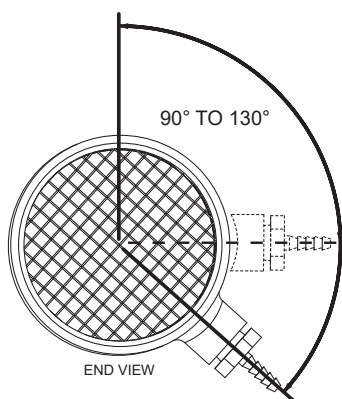

Figure 24. Intake Air Connection Hose Barb Angle Range for Proper Operation
Ensure that the hose barb installed in the Tee fitting **IS NOT** facing down towards the ground (180° - 6 o'clock position) before venting installation begins. The barb fitting must be angled between 90° and no more than 130° as shown in **Figure 24** (page 31). If the barb fitting is facing down, residual condensate that occasionally forms in the intake-air pipe can drain into the Blocked Intake Air switch through the attached sensing tube and damage the switch. This condition can also lead to Blocked Intake Air fault conditions and associated control system lockouts.
The intake-air Tee fitting is factory-installed with the 1/2 inch branch and hose barb angled to the right at approximately 130° when viewed from the end. See **Figure 24**. The Tee fitting's 1/2 inch branch and hose barb must not be angled any lower (towards the ground) than this factory specification. Angling higher, up to a 90° position, will not adversely affect operation and is acceptable.
Inspect the angle of the tee fitting's 1/2 inch branch and hose barb while viewing from the end of the tee. See **Figure 24**. If the angle of the tee fitting 1/2 inch branch and hose barb is lower than shown, adjustment will be necessary. To adjust the intake-air tee fitting angle, follow the steps listed below.
4. Adjust the angle of the tee fitting so that the 1/2 inch branch and hose barb are at the proper angle as shown in **Figure 24**.